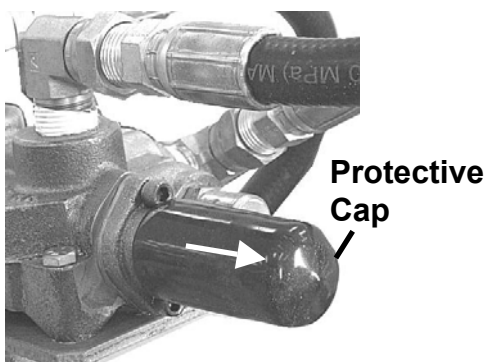
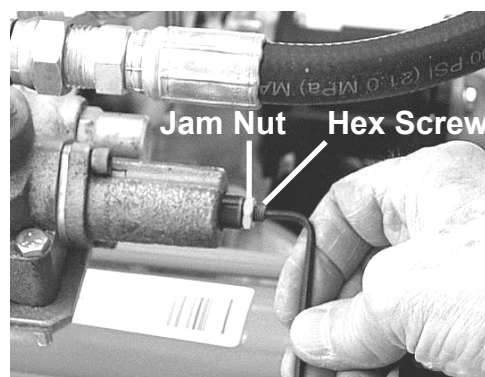

Figure 26
Figure 27
1. Pull off the black protective cap (*Figure 26*) on the right side of the control valve and loosen the jam nut with the 7/16" wrench (*Figure 27*).
2. Using the Hex wrench, turn the screw on the control valve clockwise, a quarter turn at a time (*Figure 27*), until the push ram will return to its fully retracted position. Retighten the jam nut and replace the protective cap.